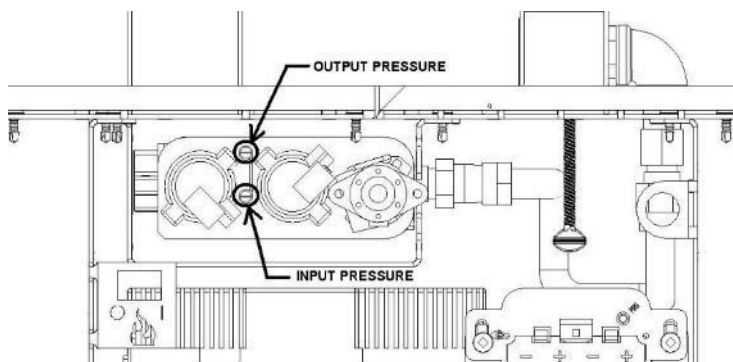

Figure 6.5
- Loosen the input “IN” and/or the output “OUT” pressure verification port(s) by turning counter clockwise with a 1/8 in. (3 mm) wide screwdriver (figure 6.5).